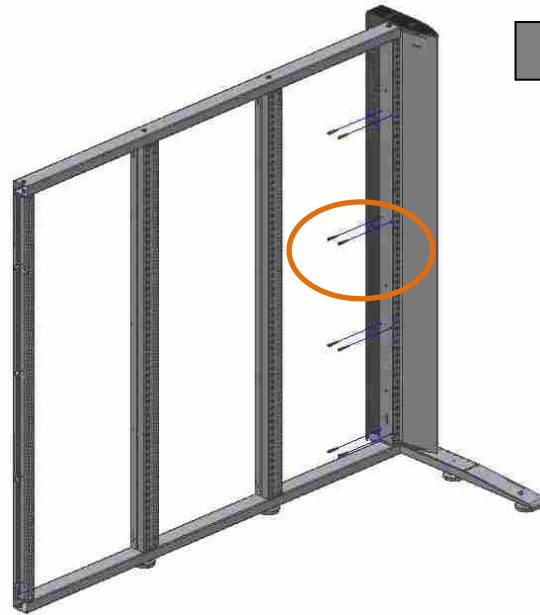

Fig 3
STEP 2 – Screw the **frame** tightly to the **side** with **M6x45/55 ISO7380 Allen screws** (Fig. 3 and 4)